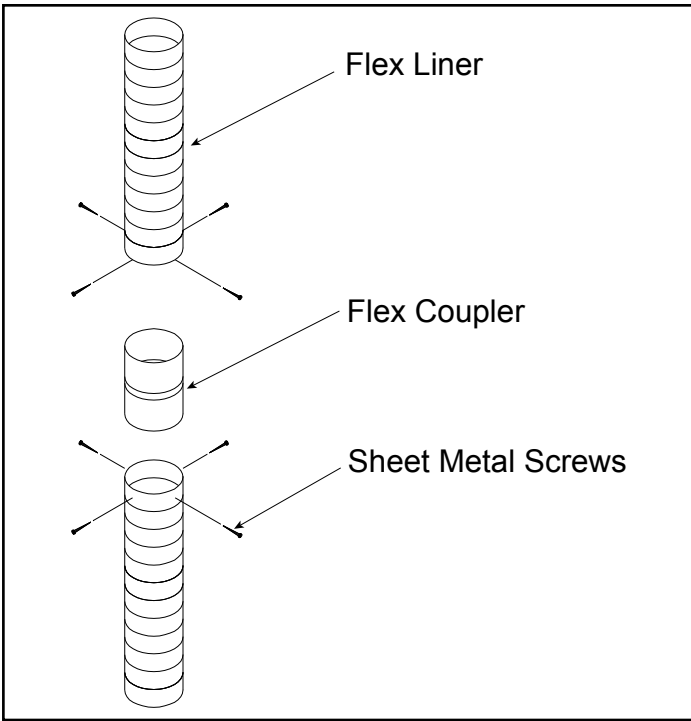

Figure 4.19
7. If additional lengths of flex liner are needed to span the chimney height, use a flex coupler to connect the pieces of flex liner together. Connect the flex to the coupler by using four sheet metal screws for each side. See Figure 4.19.